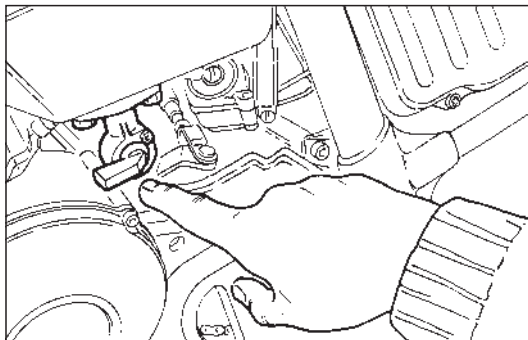

Fig. 45
STARTING (Fig. 45)
- ◆ Open the fuel cock on the tank (Fig. 45).